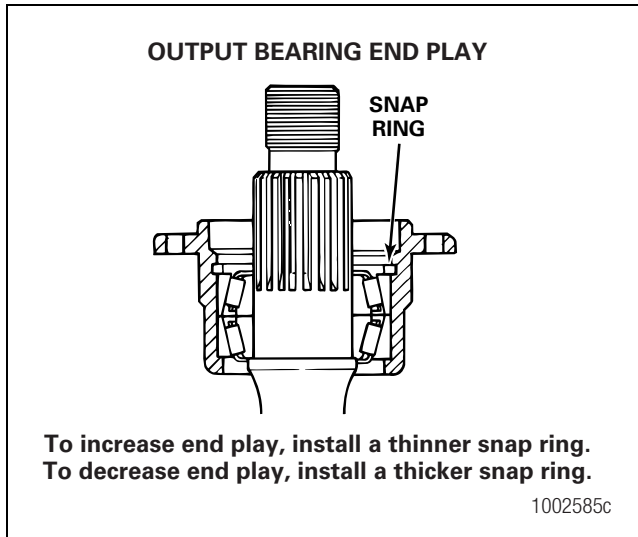

Figure 5.8
- If the end play reading is not 0.004-0.008-inch (0.10-0.20 mm): Remove and replace the snap ring that fastens the bearings in the cage. Install a thinner snap ring to increase the end play. Install a thicker snap ring to decrease the end play. Figure 5.8.